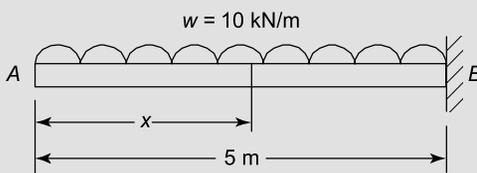

Figure 7.37
**Problem 7.** Determine expressions for the bending moment and shearing force distributions for the cantilever shown in Figure 7.37, which is subjected to a uniformly distributed load, acting downwards, and spread over the entire length of the cantilever.